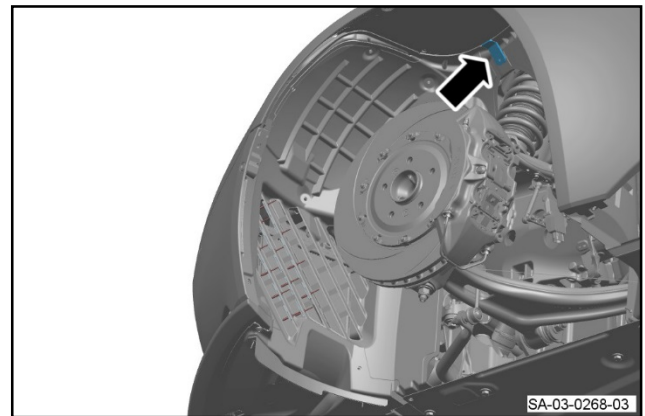

Figure 8
10. Install the reinforcement bracket for the wheel arch liner (refer to Figure 8).